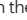

Fig. 131 Centre console, lower part: electronic parking brake button.
- Pull and hold the  **Fig. 131** button.
- Press the button  **Fig. 131**. At the same time step hard on the brake pedal or, if the engine is running, press the accelerator pedal slightly.